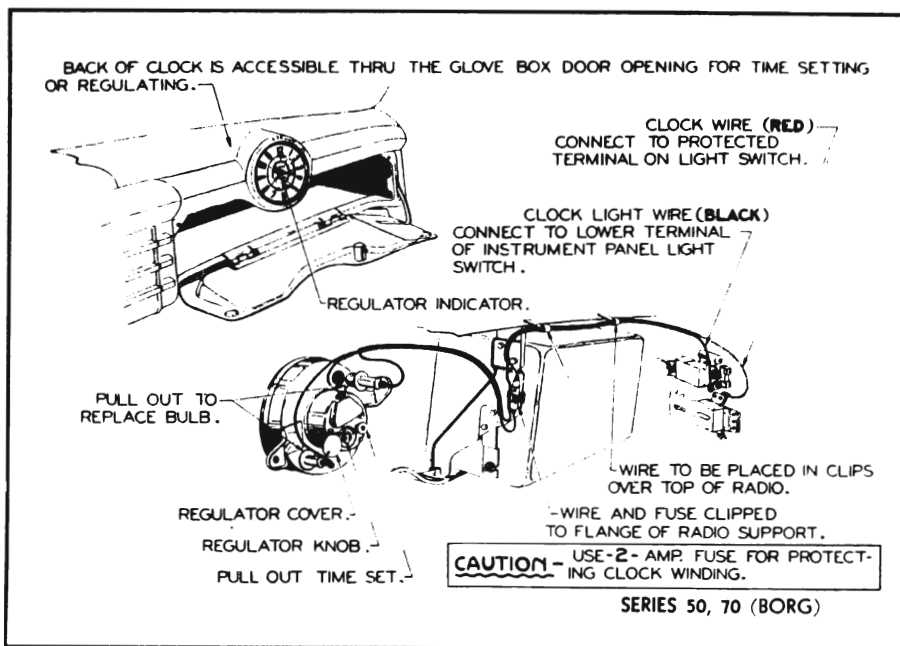
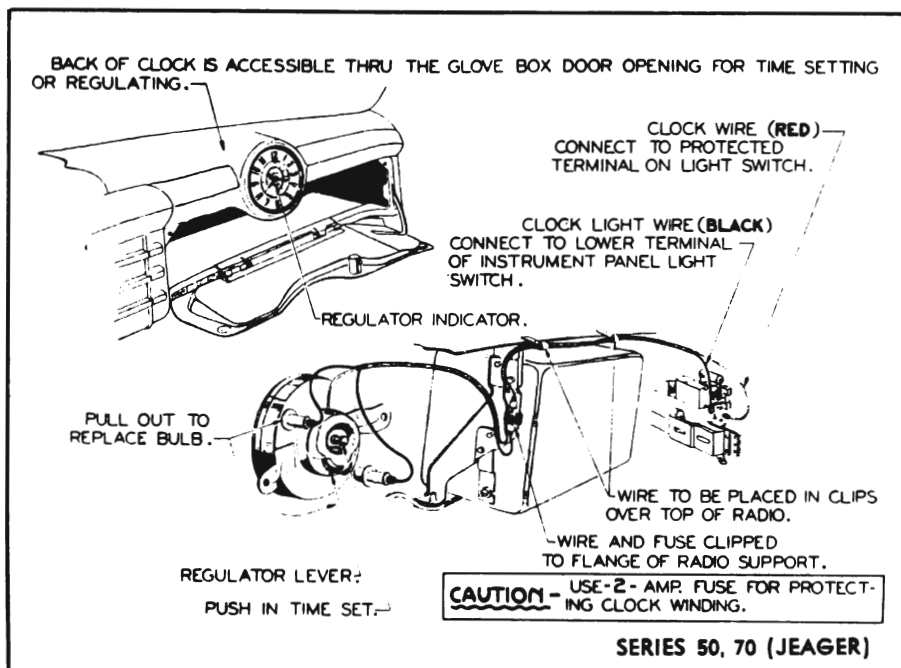

Fig. 12-76. Clock Installation—Borg—Series 50-70
Fig. 12-77. Clock Installation—Jeager—Series 50-70
- To reset clock open glove compartment door and reach through opening in glove box to reset knob. On the Borg clock it is necessary to pull knob out to reset. See Fig. 12-76. On the Jeager clock the knob is to be pushed in when resetting. See Fig. 12-77.
clock toward "F" to make clock run faster and toward "S" to make clock run slower. See Fig. 12-77.
The Borg clock is regulated in the same manner, however, the regulator is a knob located underneath a sliding cover. See Fig. 12-76.